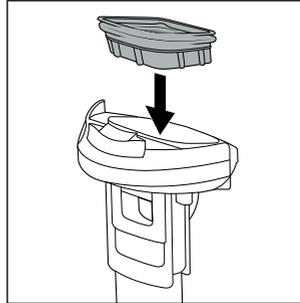

Fig. 28
- ◆ Once the parts are fully dry, replace the dirt filter **10** back in the lid of the waste water tank **9** (see fig. 28).